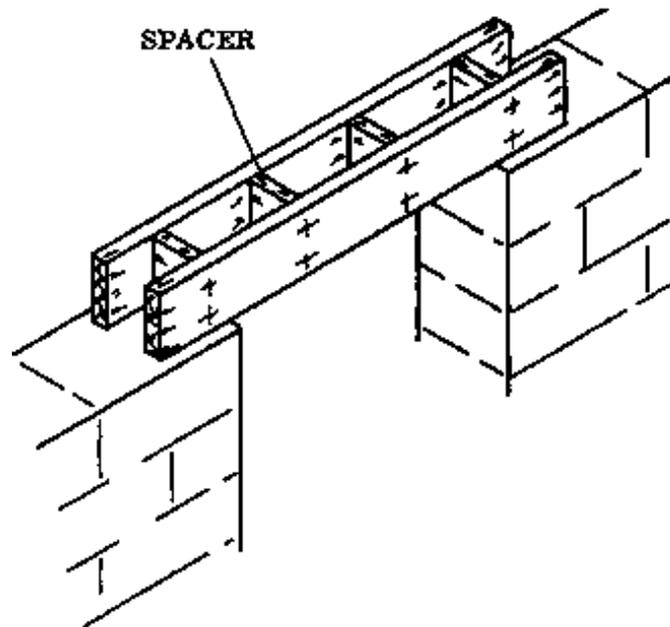

**Fig. 1 BUILT-UP WOODEN LINTEL**
**A lintel, whatever material it is made from, is a horizontal member of the structure which bridges an opening (Fig. 1).**
**This lintel consists of two or more hardwood boards which are nailed, bolted or screwed together (Fig. 1). In order to save materials when a wider lintel is required, the boards are sometimes connected with spacers between them (Fig. 2).**